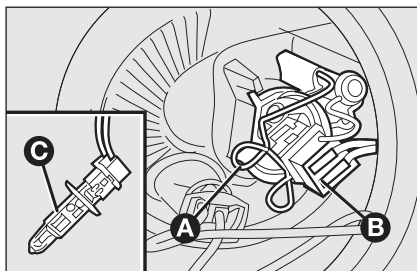

fig. 25
- release the bulb holder catch **A**-fig. 25;